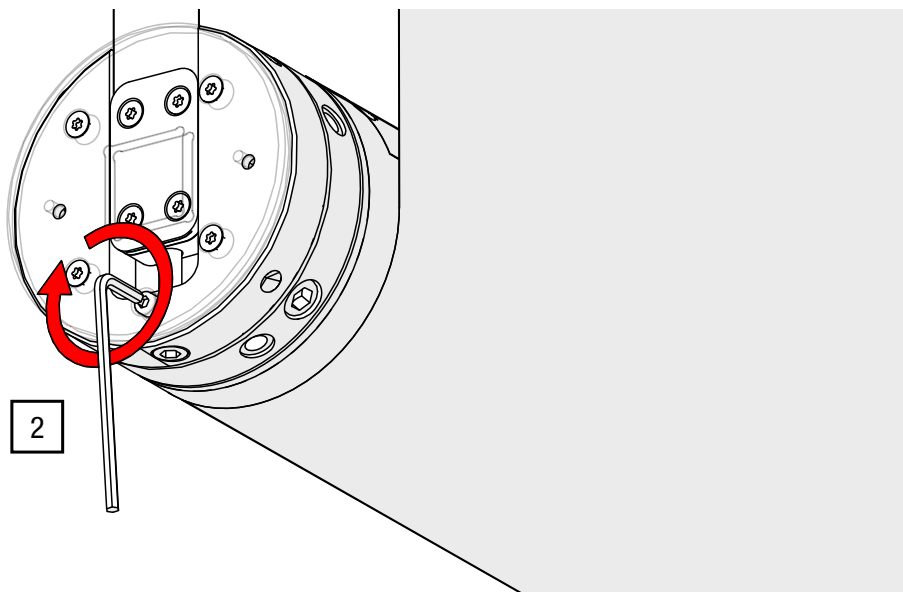

Fig. 34: Setting the levelling – Loosen the locking screw
2. Loosen the locking screw with an Allen key AF 5 by approx. half a turn (see Fig. 34).
- Tighten the safety screw from step 2 (see Fig. 34) with an Allen key AF 5 hand-tight.